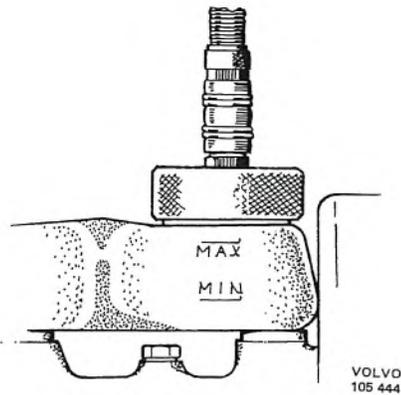

Fig. 5-63. Connecting unit
4. Fit on the container a cap specially used when bleeding, see Fig. 5-63. Connect the bleeder unit according to the instructions of the manufacturer. The working pressure is 2 kp/cm² (28.4 psi). The type of bleeder unit which may be used is shown in Fig. 5-5.